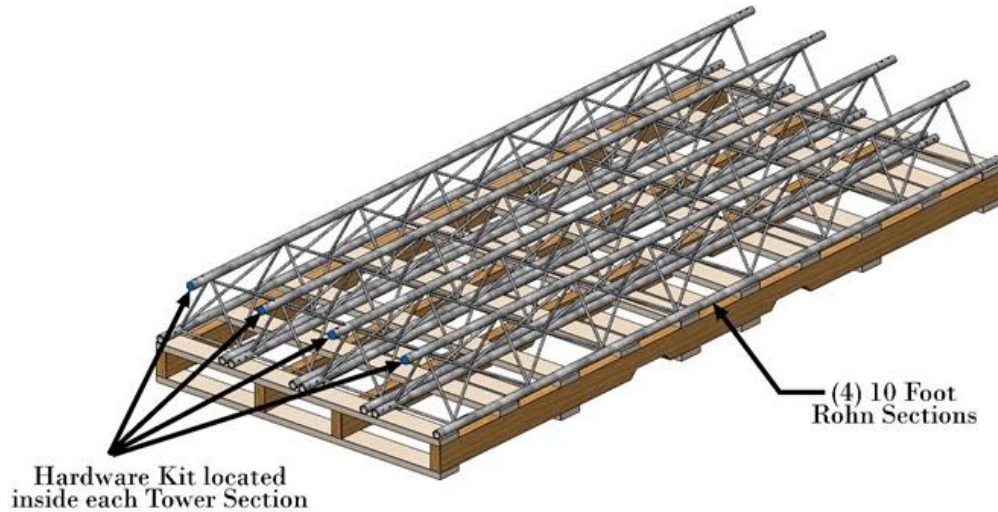

Figure 2 Kuva tower shipment Kuva Tower section packaging
1. On the 10' Kuva Tower sections tower leg remove the blue caps at the end of the tower legs and then pull out all hardware kits as per Figure 2.